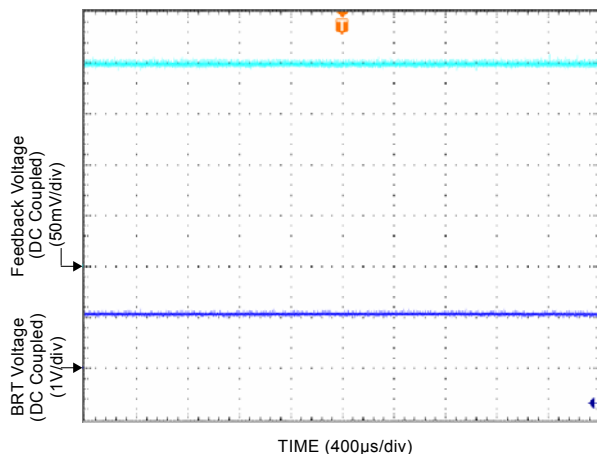
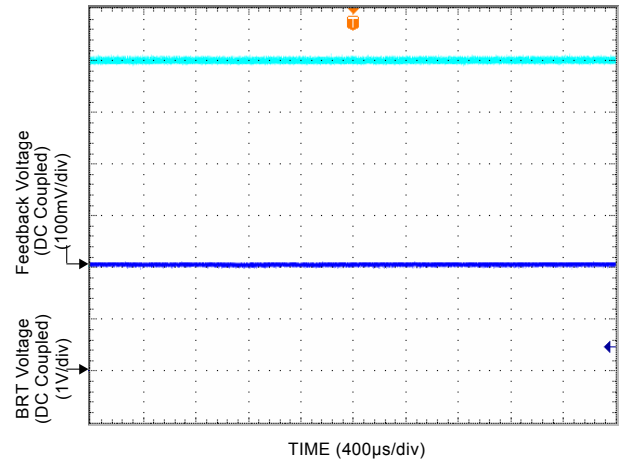

Figure 1. BRT = 1V , $V_{FB} = 200\text{mV}$, $I_{LED} = 20\text{mA}$
Figure 2. BRT = 2V , $V_{FB} = 400\text{mV}$, $I_{LED} = 40\text{mA}$
The feedback voltage can be changed using the BRT pin. Changing the feedback voltage changes the WLED current, which will change the WLED brightness. Refer to the Figure 1 and Figure 2 for reference.
In Figure 7, when the duty cycle is equal to 100%, D equals 1. When we set D equal to 1 in equation (3), notice (3) becomes the same as equation (2), if we assume V_{PEAK} equals BRT . Using a 100% duty cycle is the same as applying a constant DC voltage to the BRT pin. In this instance, Figure 7 is exactly the same as Figure 1.